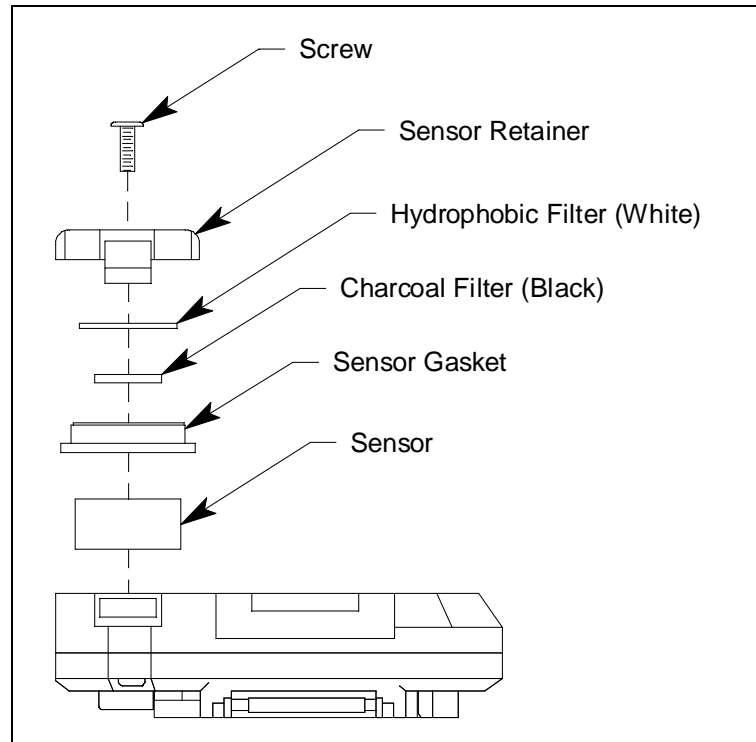

Figure 13: Replacing the Sensor
7. Reinstall the sensor gasket. Be sure to orient it as shown in Figure 13 above.